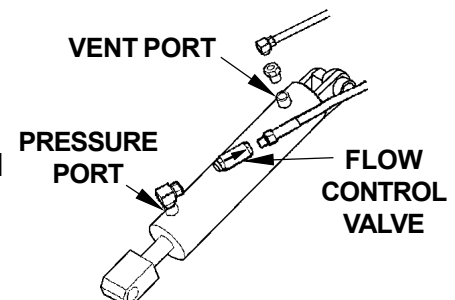

FIG. 39-3
2. Check the Hydraulic Cylinder. With the Platform on the ground, remove the Breather Plug or Vent Line from the Vent Port of the Cylinder (FIG. 39-3). Raise the Platform even with the bed. Allow pump motor to run two seconds more while you watch for hydraulic fluid at the Vent Port. A few drops of hydraulic fluid escaping the Vent Port is normal; however, if it streams from the Vent Port, Piston Seals are worn. Replace Seals.
3. Check and clean Flow Control Valve in high pressure hydraulic line attached to Cylinder. When installing Flow Control Valve make sure arrow on valve is oriented as shown in (FIG. 39-3).